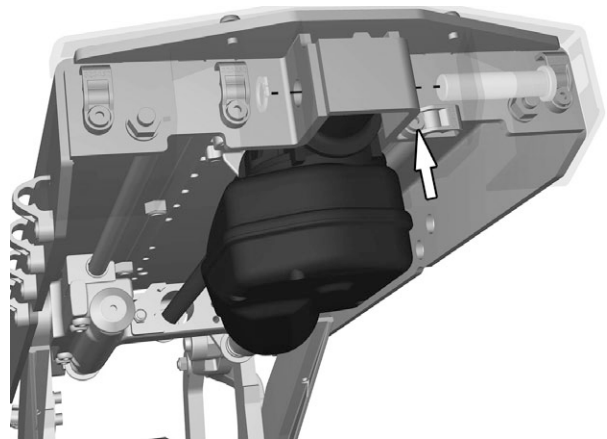

Figure 121. Remove the circlip and axle holding the actuators rear end and the screw holding the cable bracket.
4. Remove the screw holding the cable bracket. See fig. 121. Divide the cable by the connector of the cable.
5. Remove the circlip and axle holding the actuators rear end. See fig. 121.